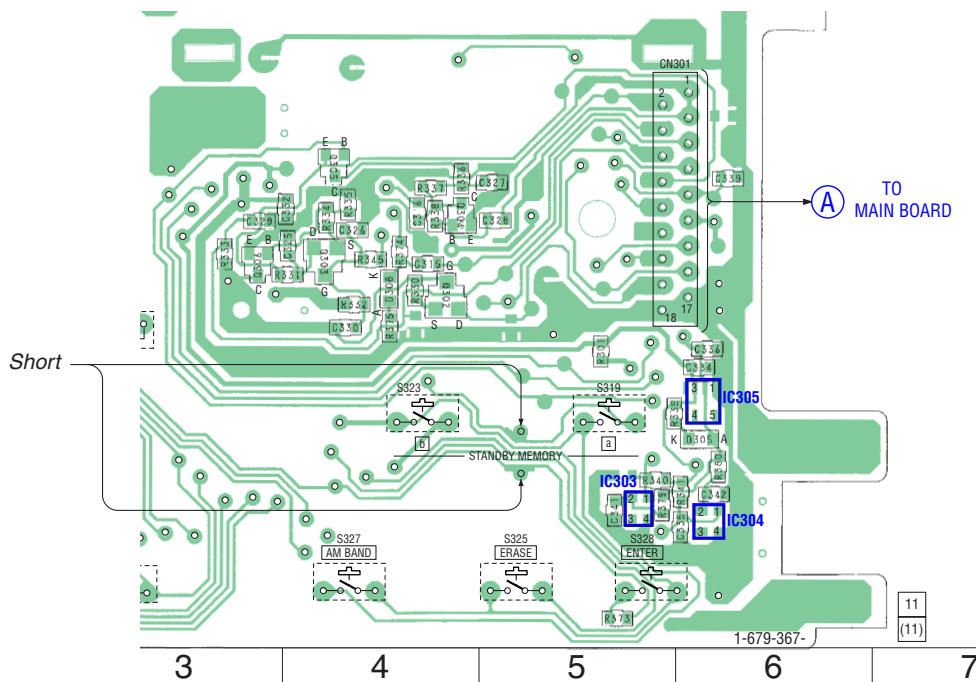

Fig. 1
2. Two test lands of KEY board are made to short-circuit. (Fig.1)